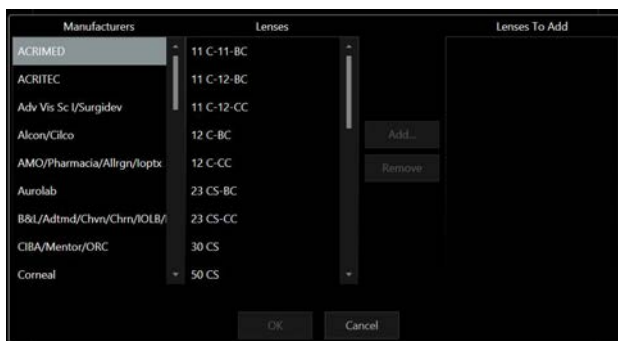

Figure 2: Lens selection screen
- ③ For systems with biometric A-scan option, preferred lenses (IOL’s) can be selected by selecting the <Lenses...> button. Pressing the <Add...> will display a window showing lens manufacturers on the left and lenses produced by that manufacturer in the center of the display. Once a lens is selected, the <Add...> button will become active and selecting this button will add the desired lens to the user preferred list. Likewise, a selected lens may be removed by highlighting the lens and pressing the <Remove> button. When all lenses have been added, press <OK> button. Pressing “CLOSE” will return the user to the MD/Examiner screen (Figures 2 and 3).